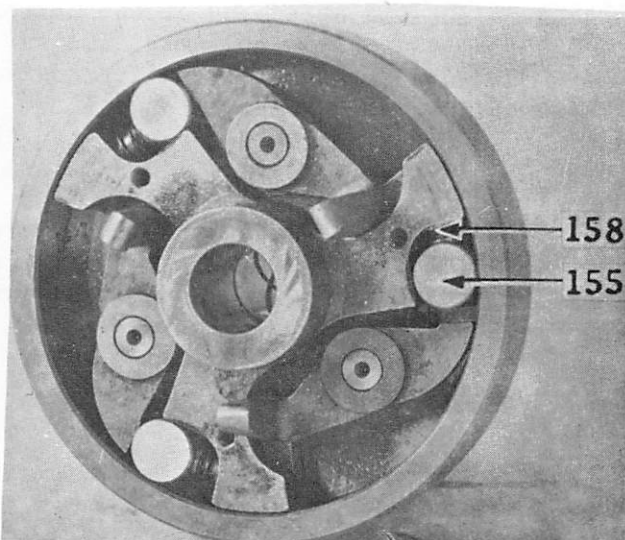

Fig. 28 Rapid Feed Clutch Disc Showing Clutch Rollers, Springs, Levers and Carrier Assembled
To Remove the Clutch Rollers. It is important that the clutch rollers (155, Fig. 28) be absolutely true and of equal diameter so that they will all grip against the rim of the rapid feed driving disc. The clutch rollers may become so worn as to interfere with the perfect operation of the clutch, allowing the clutch to slip. When this occurs, the worn clutch rollers should be removed and new rollers inserted in their place as follows:
Using the tweezers, carefully draw out the clutch roller (155), at the same time inserting a thin piece of sheet metal between the roller and the plunger (158, Fig. 28) to keep the spring and plunger from dropping out of the retainer. In case the spring and plunger should drop out of the retainer, dip them in heavy grease which will help to hold them when they are replaced.